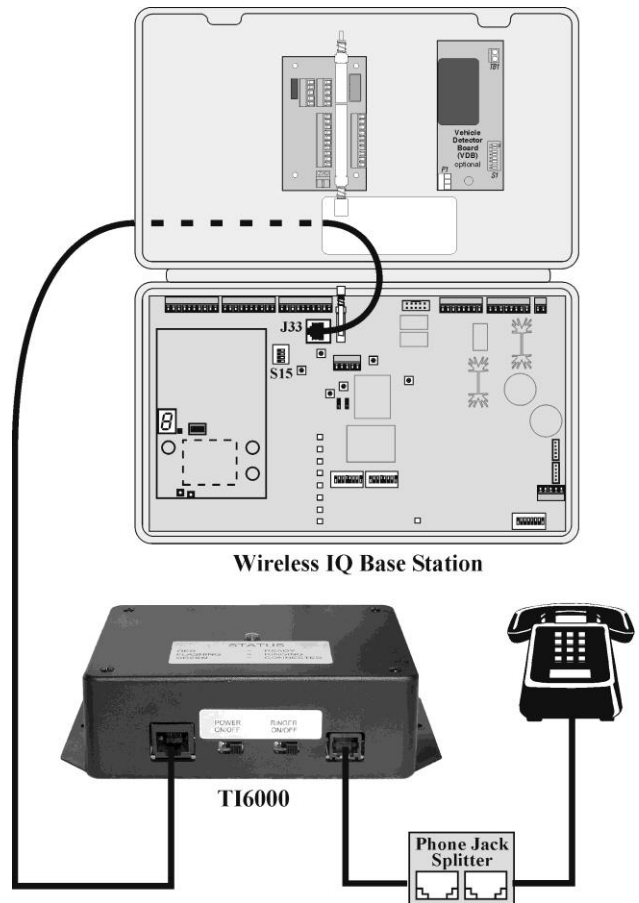

Figure 7. TI6000 wiring diagram if using the Type 1 base station interface cable
- At the end of the cable remaining in the base station, plug the RJ45 connector into J33 on the base station circuit board as shown in the wiring diagram, Figure 7.
This cable is used with Wireless IQ base stations that **do not** have a J33, RJ45 connector on their circuit board, as seen in Figure 7.